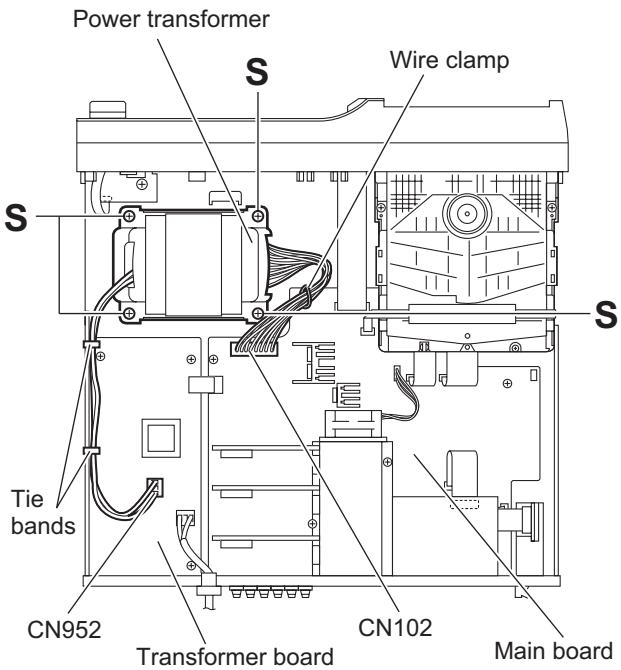

Fig.17
3.1.11 Removing the power transformer (See Fig.17)